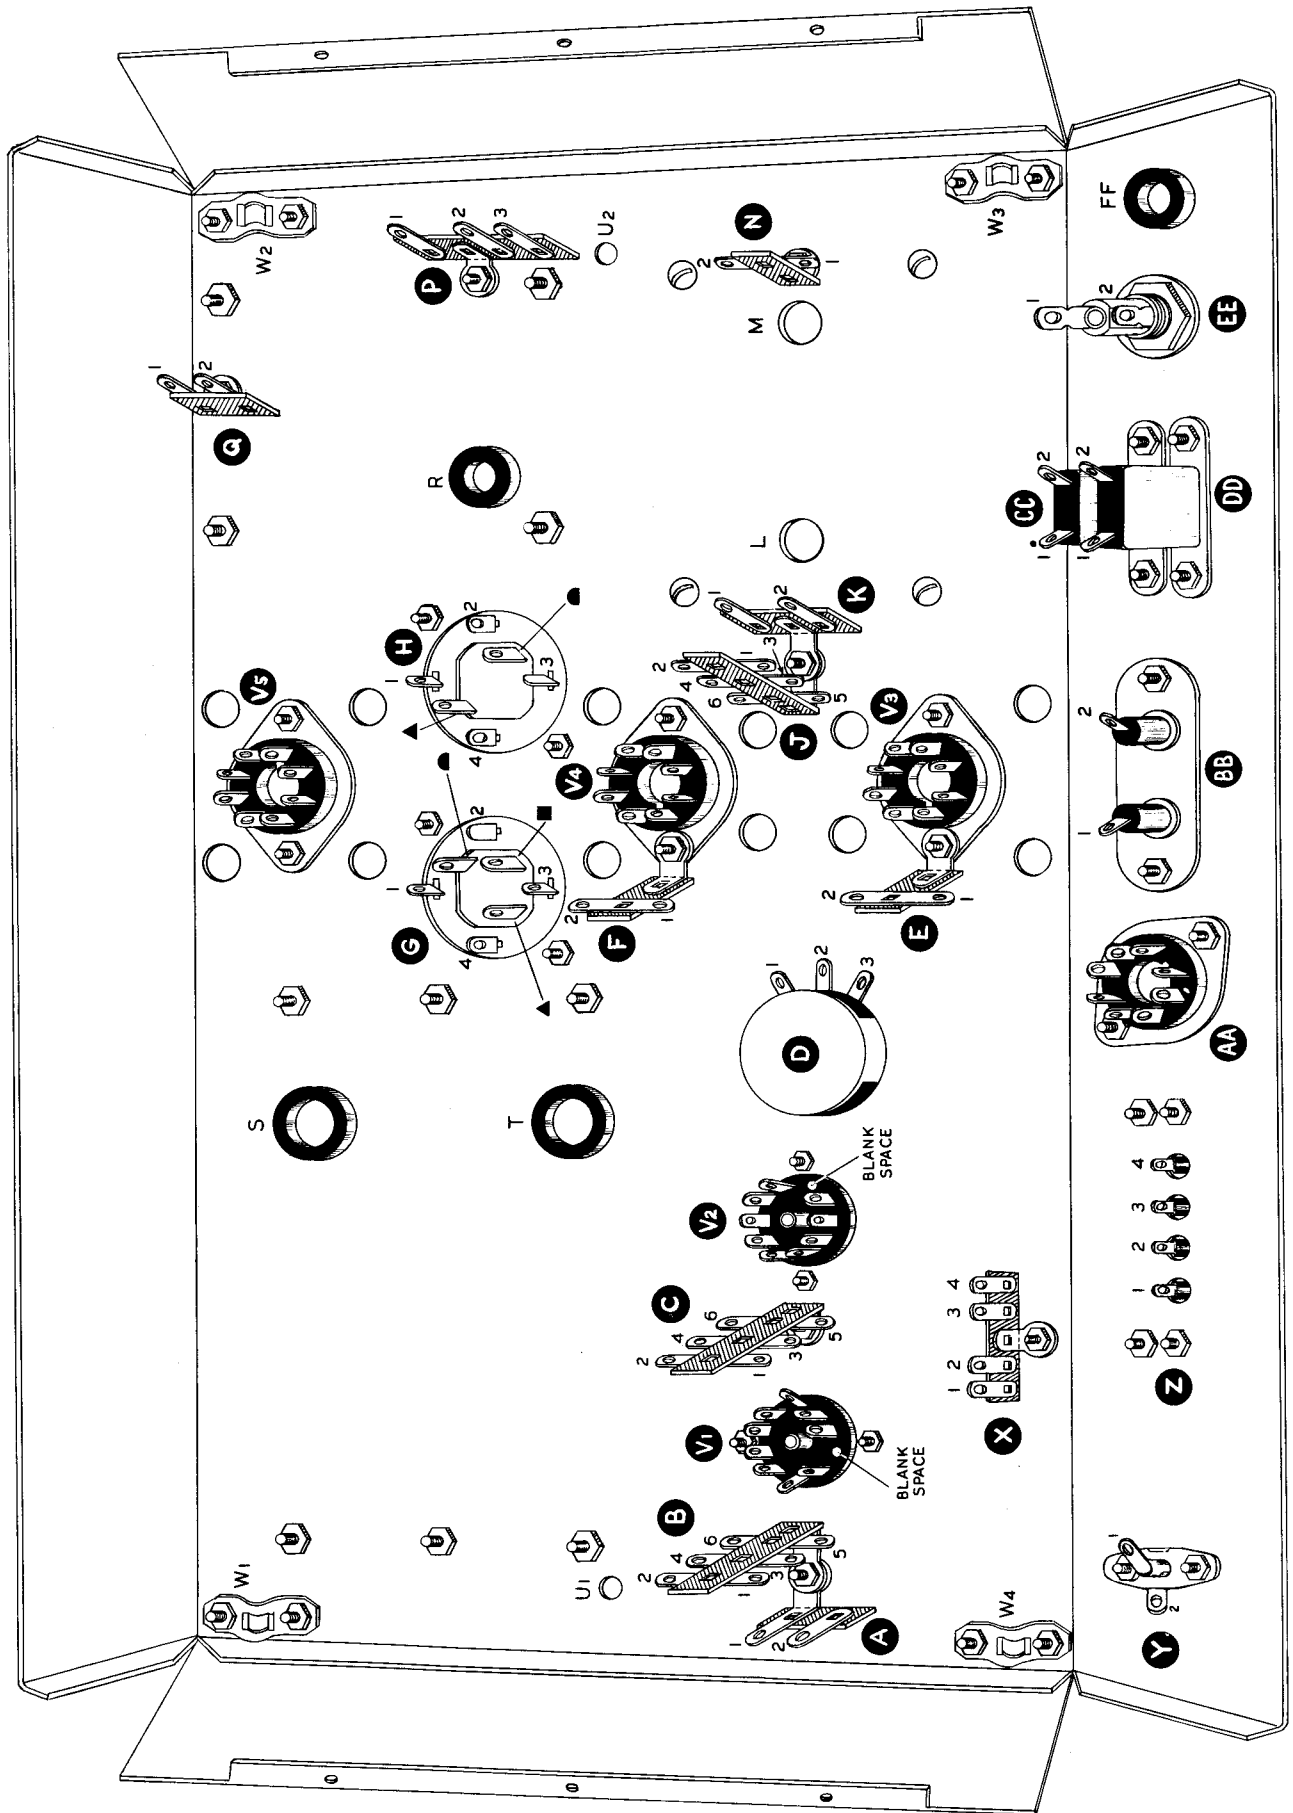
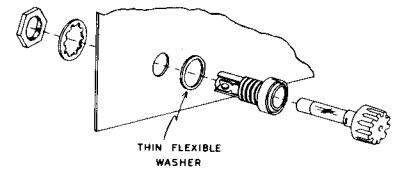
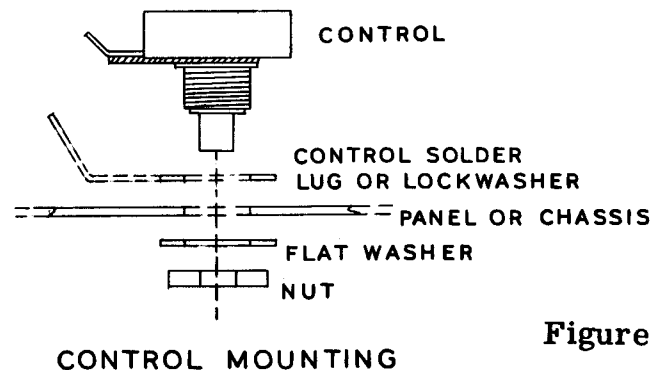

Figure 8
Figure 9
Figure 10
- (-) Place the chassis with the open side up in front of you on your workbench. Be sure that the apron with the holes in it is nearest you. See Figure 8 on Page 13.
- (-) Mount a 9-pin miniature tube socket at location V1, using 3-48 hardware with lockwashers. Use the chart on Page 32 to identify hardware sizes if necessary. The body of the socket should be outside the chassis, with the lugs extending up through the socket hole. Orient the socket so the blank space is positioned as shown in Figure 8.
- (-) Install an octal socket at V3, using 6-32 hardware. Be sure that a 1-lug terminal strip is mounted on one screw as shown in Figure 8. Position the keyway of this socket to the left as shown.
- () Install one dual-lug terminal strip N as shown in Figure 8. Use 6-32 hardware.
- (+) Following Figure 9, mount the fuse holder at EE. Position the contact lugs as shown in Figure 8. Install the fuse in the holder.
- (-) Install the 300 Ω "Bass-Bal" control at D. Follow Figure 10 for assembly details and orient terminals as shown in Figure 8.
- () Now install 2-lug terminal strip Q, placing a 6-32 screw through the choke flange, chassis and strip bracket, as shown in Figure 8.
- (-) Identify the 20-20-20 μ fd 450 volt filter condenser. This is the metal can with three terminals protruding through the insulating wafer at one end. Note that each terminal is identified by a symbol punched through the insulator adjacent to the lug. Orient these terminals as shown in Figure 8, slip the four mounting lugs through the slotted holes in the wafer at G. Then twist each lug approximately 45° to secure the condenser to the wafer. Be sure the condenser is held firmly against the wafer while twisting the lugs.
- () In the same way, mount the 40-40 μ fd 450 volt filter condenser at H. Again, orient the lugs as shown in Figure 8 before twisting the mounting tabs.